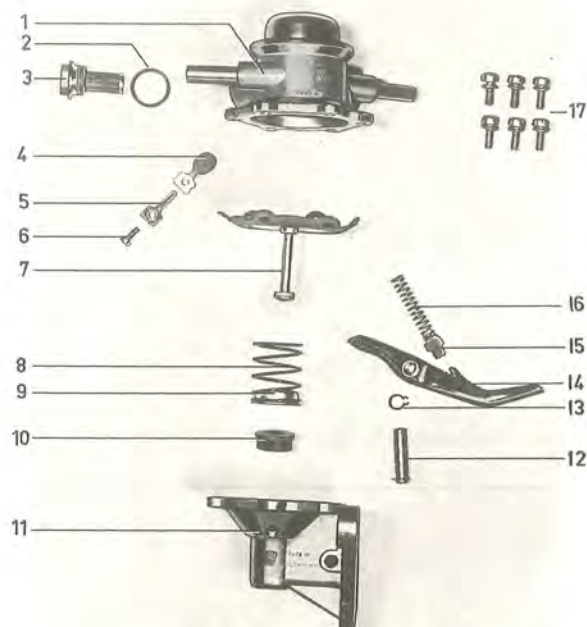

Fig. 2-73. Fuel pump, dismantled
1. Screw out the plug (3, Fig. 2-73) with strainer.
3. Remove a circlip (13) from the lever pin (12). Press out the pin. Pull out the lever (14) and the spring (16).
4. Remove the diaphragm with spring (8), guide (9) and rubber seal (10). Prise the rubber seal over the nylon washer and then remove the spring.
5. Screw loose the underside from the upper section, remove the stop arm and the inlet valve (4). The outlet valve cannot be removed.